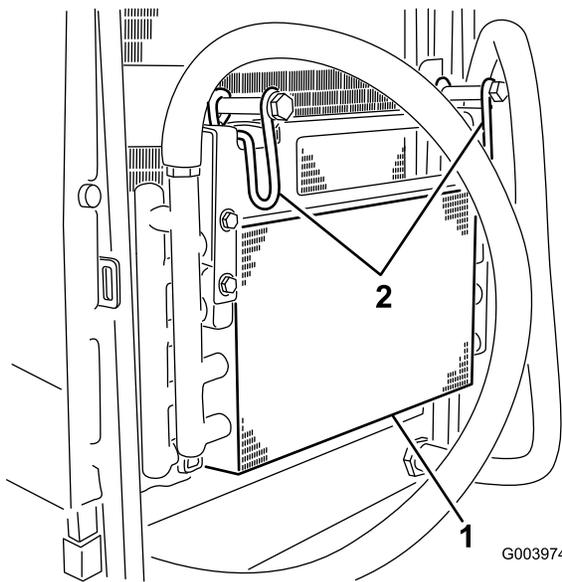

Figure 106
7. Rotate the 2 oil-cooler latches inward, and tilt oil cooler (Figure 106).